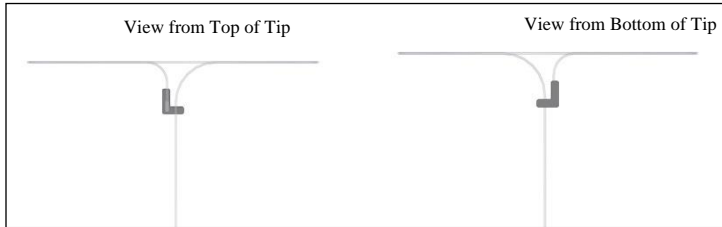

Figure 4B Fluoroscopic View of Orientation Marker on Tip
- If using fluoroscopic guidance to advance the LARIAT RS over the target tissue, a marker on the distal tip provides a fluoroscopic reference for the tip position of the open snare. See Figure 4B